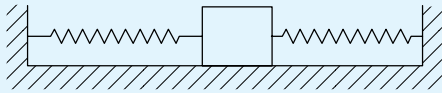

Figure 19.5
5. A mass of 3 kg rests on a smooth horizontal surface, as shown in Figure 19.5. If the stiffness of each spring is 1 kN/m, determine the frequency of vibration of the mass. It may be assumed that, initially, the springs are un-stretched.